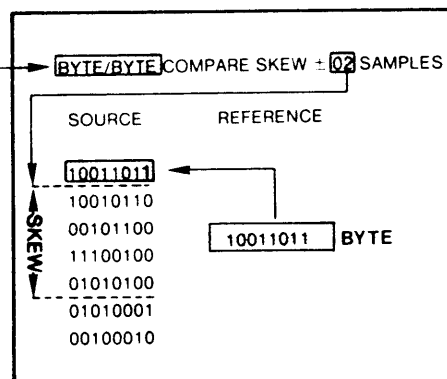

FIGURE 5-26. COMPARE MODES
**5.3.5.4 Compare Mode.** The "COMPARE MODE" ⑤ field heading allows the operator to select either Bit-to-Bit or Byte-to-Byte comparison between the Reference and Source Memories. Figure 5-26 shows these two modes. Operation is dependent on the "COMPARE SKEW" ③ programmed. In Figure 5-26, the compare skew is +/-2 samples of the word in the Reference Memory.